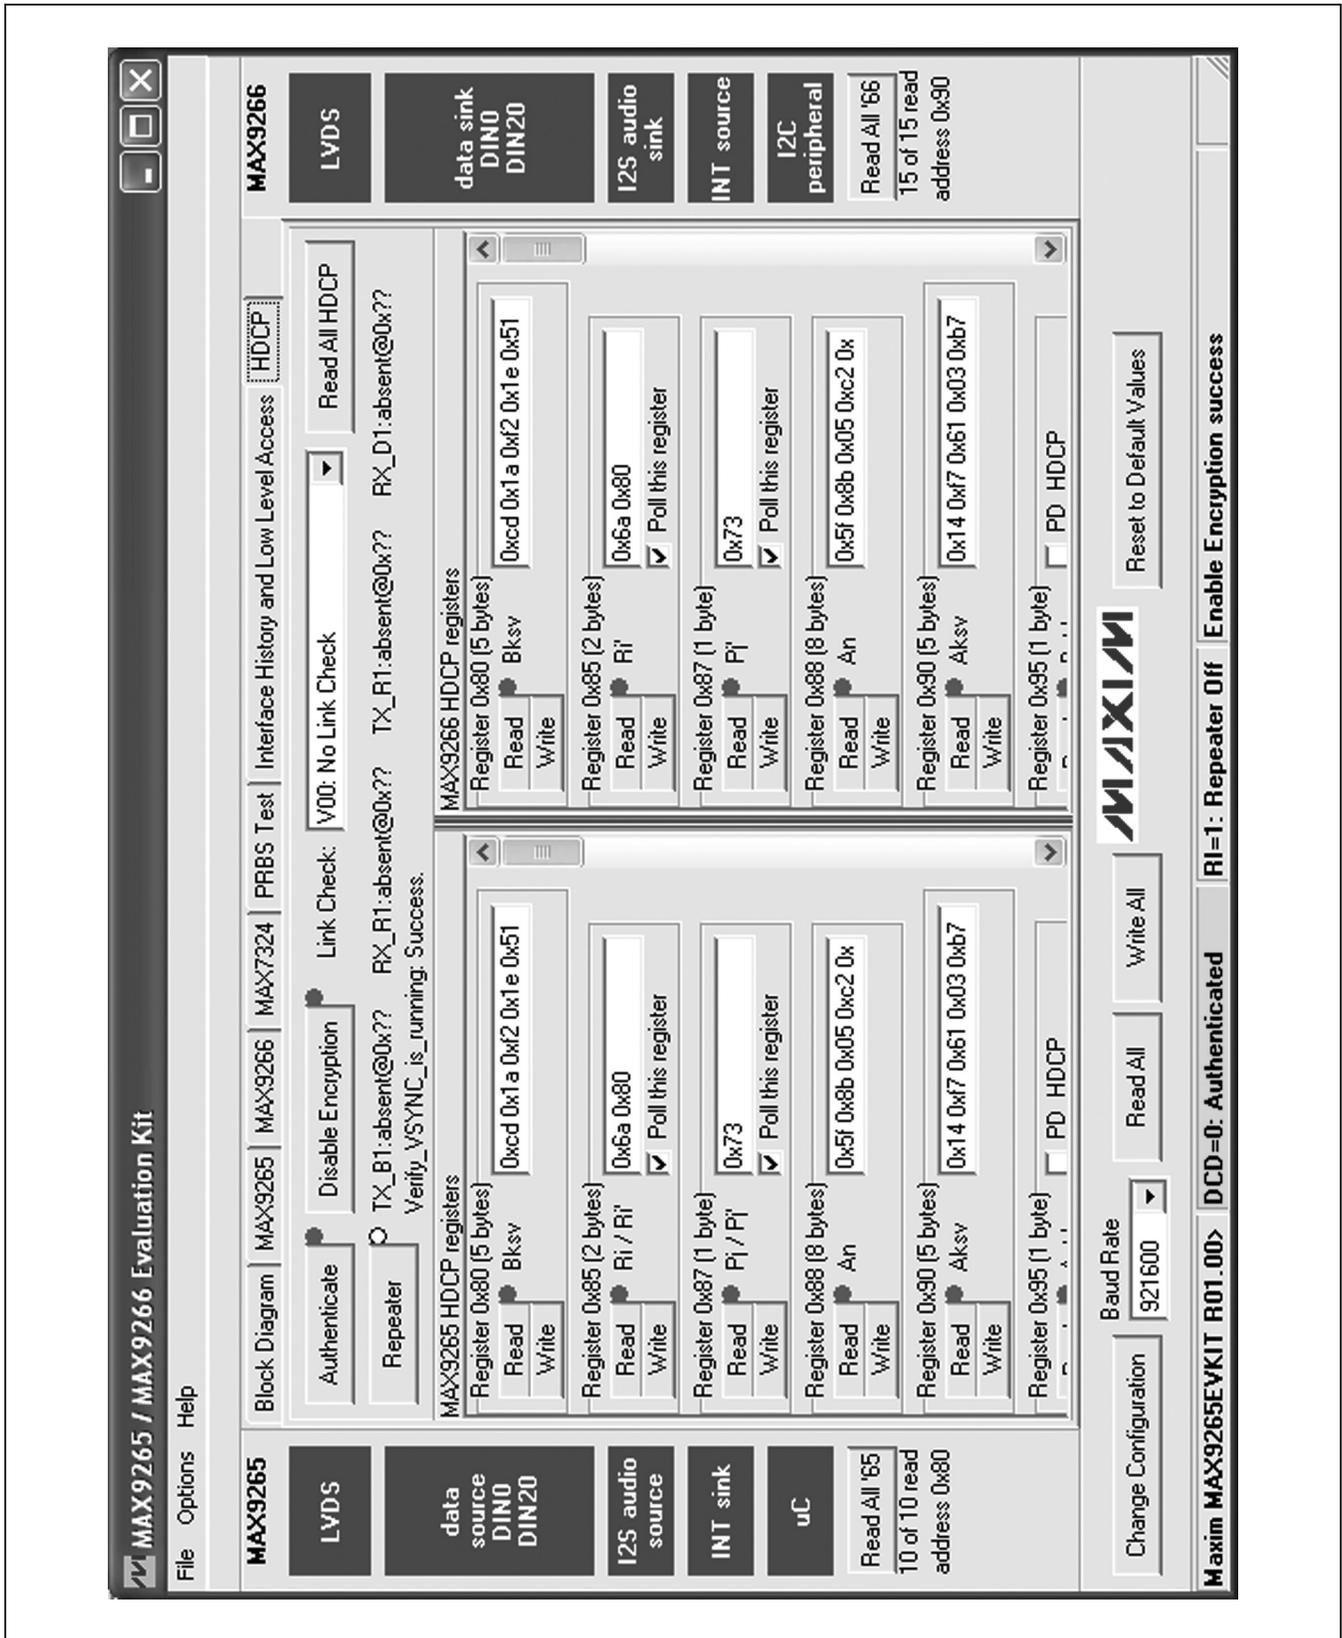

Figure 7. MAX9265/MAX9266 EV Kit Software Main Window (HDCP Tab)
- 15.6) On the **HDCP** tab sheet (Figure 7), verify that HDCP authentication between Board #1 and Board #2 is successful. The corresponding Bksv and Aksv values should match, and the Ri keys should be updated with the same value.
The **HDCP** tab sheet (Figure 7) shows the HDCP registers of both the MAX9265 serializer and the MAX9266 deserializer side-by-side. This tab sheet is removed if the device capabilities register does not indicate that the device supports HDCP, so if the software is used with the MAX9259, MAX9260, MAX9249, or MAX9268, this tab sheet is not visible. Many of the HDCP registers are displayed as multiple hexadecimal bytes, with a 0x prefix before each byte and spaces between bytes. The **Authenticate** button commands the firmware to perform HDCP authentication, using either internal or external comparison depending on the **EN_INT_COMP** bit in the Actrl register. The **Enable Encryption** button waits for a falling edge on VSYNC and then writes to the MAX9265 Actrl and MAX9266 Bctrl registers with the encryption enable bit set to 1. When the button caption changes to **Disable Encryption**, operation is the same except that the encryption enable bit is cleared to 0. After encryption is enabled, registers 0x85 and 0x87 are repeatedly polled as long as each register's **Poll this register** checkbox remains checked. The **Link Check** drop-down list configures the optional HDCP link integrity check and can be used to check the R values every 128 VSYNC falling edges or check the P values every 16 VSYNC falling edges.